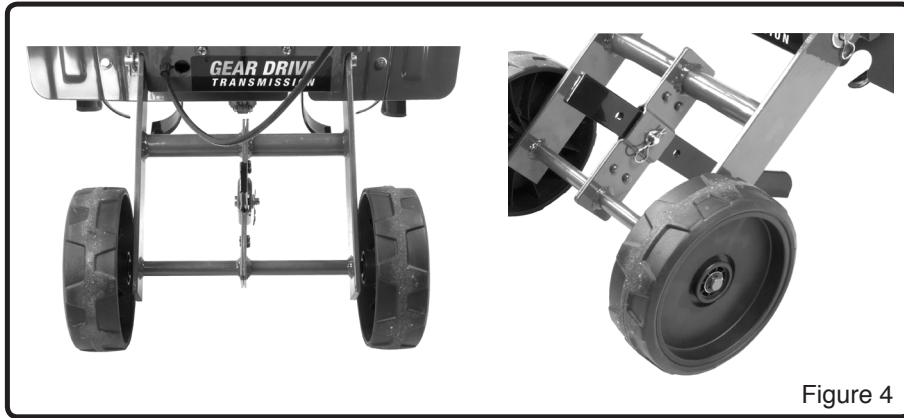

Figure 4
1. Insert the drag bar into the bottom of the wheel bracket assembly. (See Figure 4)
2. Insert the pin through the bracket and the middle hole of drag bar and secure with flat washer and hairpin cotter. (See Figure 4)